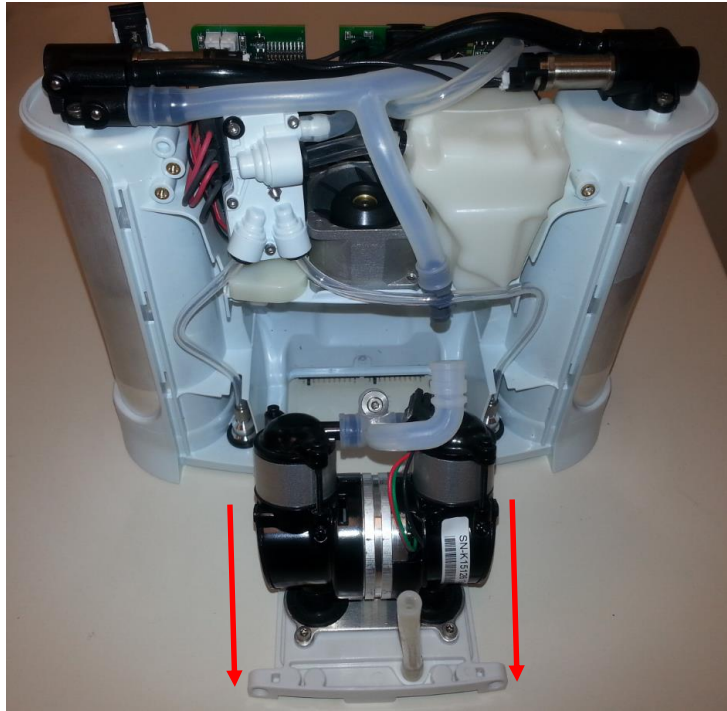

Figure 9: Remove the compressor
7. Gently lift the compressor away from the device and remove the compressor (Figure 9).